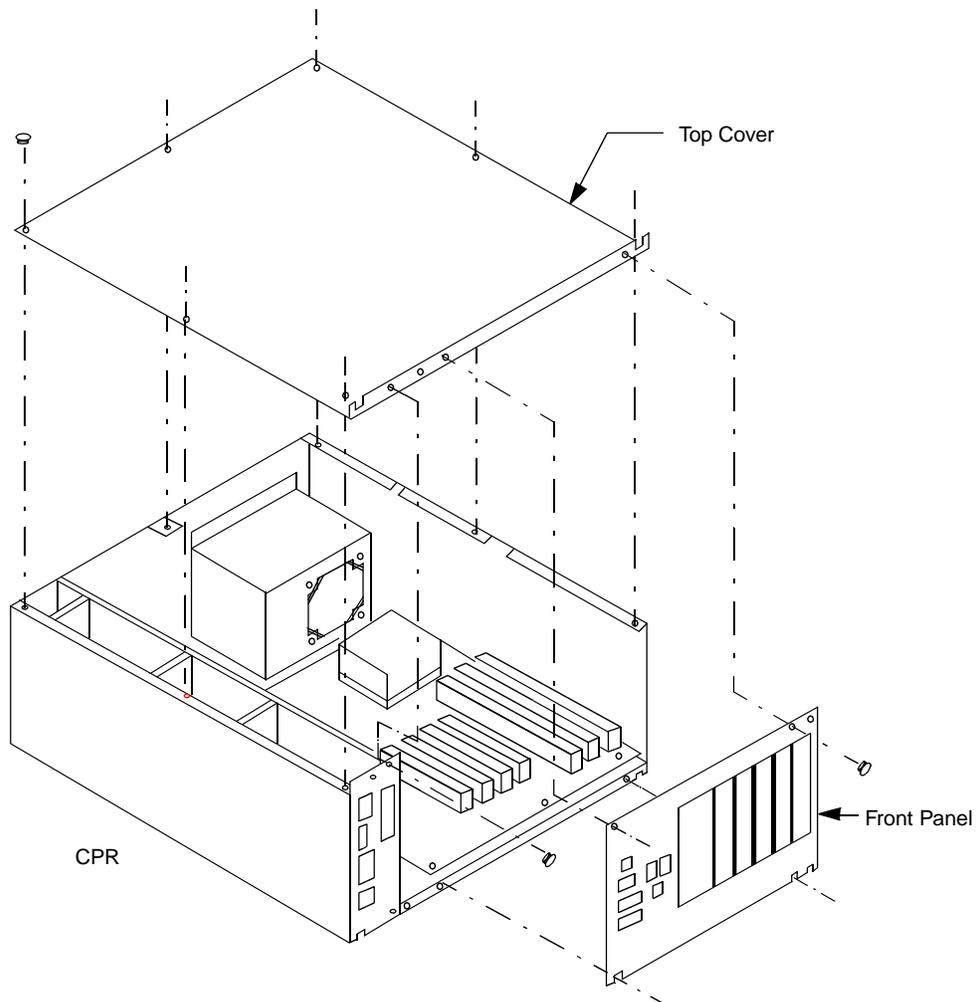

Figure 009-4 Removing Front Panel and Top Cover from CPR
1. Using the Phillips Screwdriver, remove the four + eight screws. Then, detach the front panel and top cover from the CPR. (Refer to Figure 009-4.)